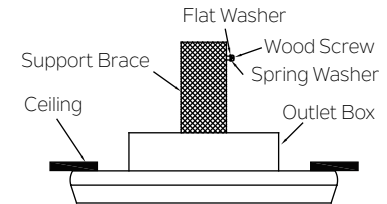

Fig.10
Step 1. Drive a wood screw and washers into the side of the brace that holds the outlet box. Leave 3mm (1/8") of space between the support brace and the washer. (Fig. 10)